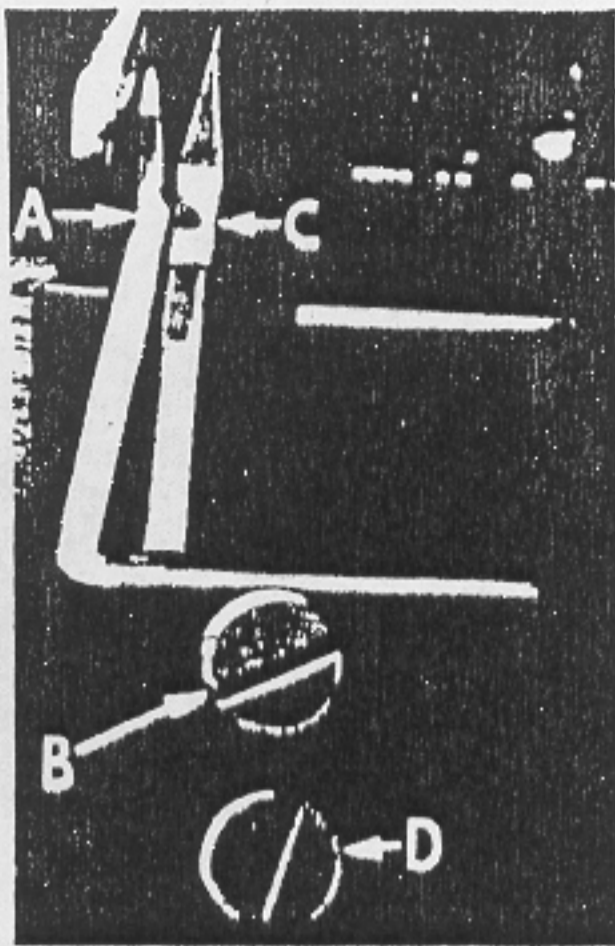

Fig. 6
Set the rear needle guard (A, Fig. 6) as high as possible without interfering with either the lower looper or movement of the lower knife holder, but still in position to deflect the needle forward  $.002$  to  $.004$  inch. Screw (B) is used to set rear needle guard. Make sure there is no interference between rear needle guard and lower looper.
Assemble front needle guard (C, Fig. 6). When lower looper is springing needle off back guard, set front needle guard as close as possible to needle without touching. Screw (D) is used to adjust and set front needle guard. After this setting make sure there is no interference between needle guards and differential feed dog.